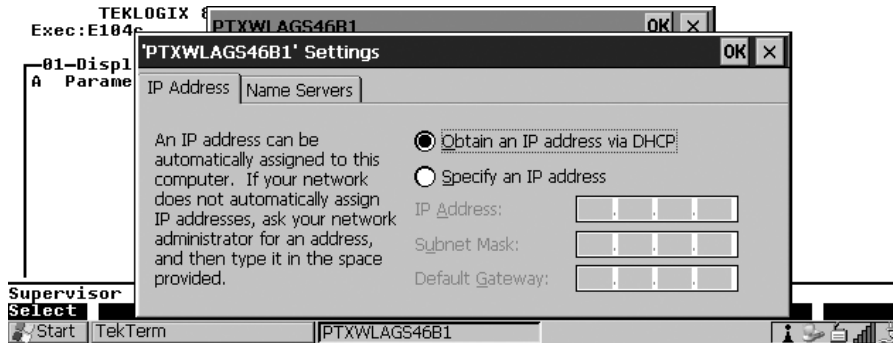

Figure 2.8 Defining An IP Address
- In the *IP Information* tab, tap on the **Configure** button. (“Figure 2.8” on page 25 is the window from which you choose the **Configure** button.)